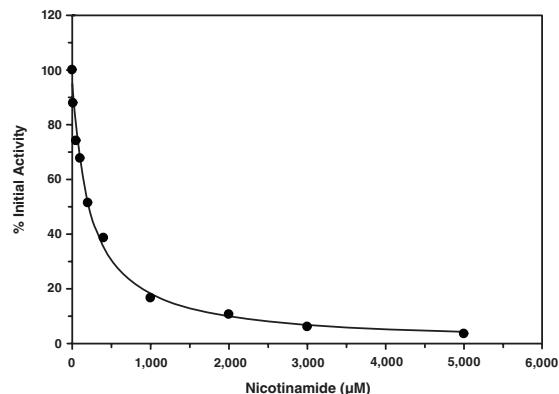

Figure 3. Inhibition of SIRT3 by nicotinamide ($IC_{50} = 200 \mu\text{M}$)
4. Graph either the Percent Inhibition or Percent Initial Activity as a function of the inhibitor concentration to determine the IC_{50} value (concentration at which there was 50% inhibition). An example of human recombinant SIRT3 inhibition by nicotinamide, a sirtuin-specific inhibitor, is shown in Figure 3 on page 15.⁹